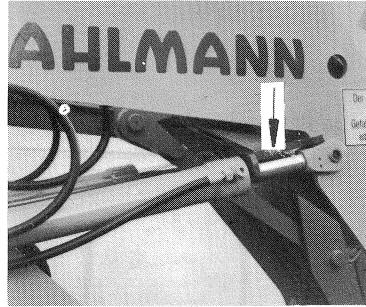

Fig. 40
- Insert shovel arm support (Fig. 40/arrow).